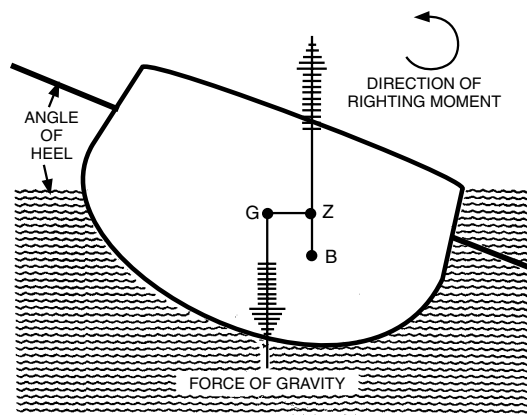

Figure 12-20. Development of righting moment when a stable ship inclines.
If you study figure 12-20, you will notice that a **RIGHTING** or **RESTORING MOMENT** is present. This righting moment is caused by the two equal and opposite forces, each of W tons (displacement) magnitude, separated by a distance GZ , which constitutes the **LEVER ARM OF MOMENT**. Figure 12-20 shows that the ship is stable because the center of buoyancy (B) has shifted far enough to position the buoyant force where it tends to restore the ship to an even keel or an upright position.
A moment is the product of a force tending to produce a rotation about an axis times its distance from the axis. If two equal and opposite forces are separated by a distance, the moment will become a couple which is measured by **ONE** of the forces times the distance that separates them. The **RIGHTING MOMENT** of a ship is therefore the product of the force of buoyancy times the distance GZ (fig. 12-20) that separates the forces of buoyancy and gravity. It may also be expressed as the force of gravity (weight of the ship) times GZ . The distance GZ is known as a ship's **RIGHTING ARM**. Putting this into mathematical terms, you have the following: